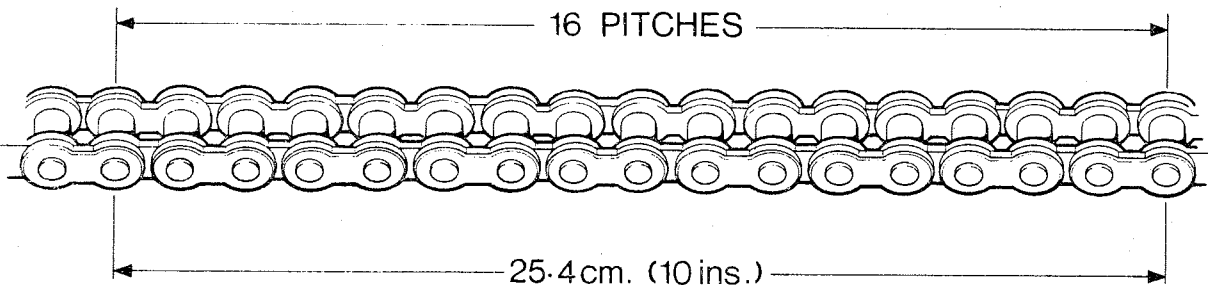
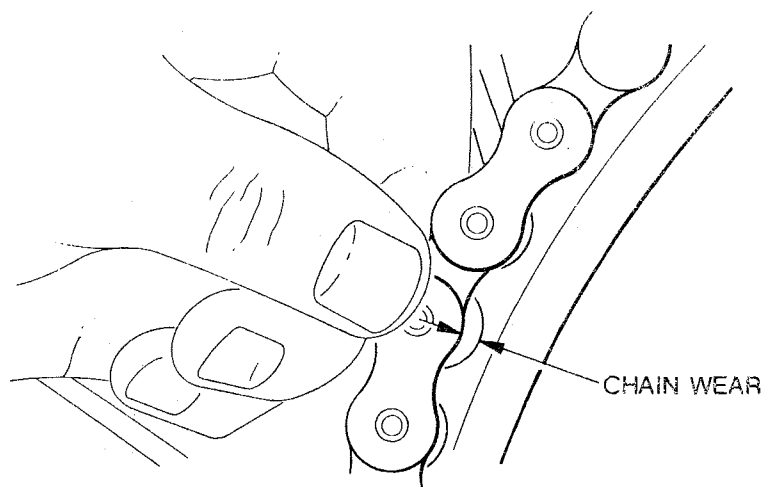

Figure 5.1 - Chain Measurement
Figure 5.3 - Chain Wear
5.3 Chain Wear. To prevent rapid sprocket wear the chain should be checked for wear. If the chain can be lifted away from the sprocket, Figure 5.3, the chain should be removed and measured, Figure 5.1.